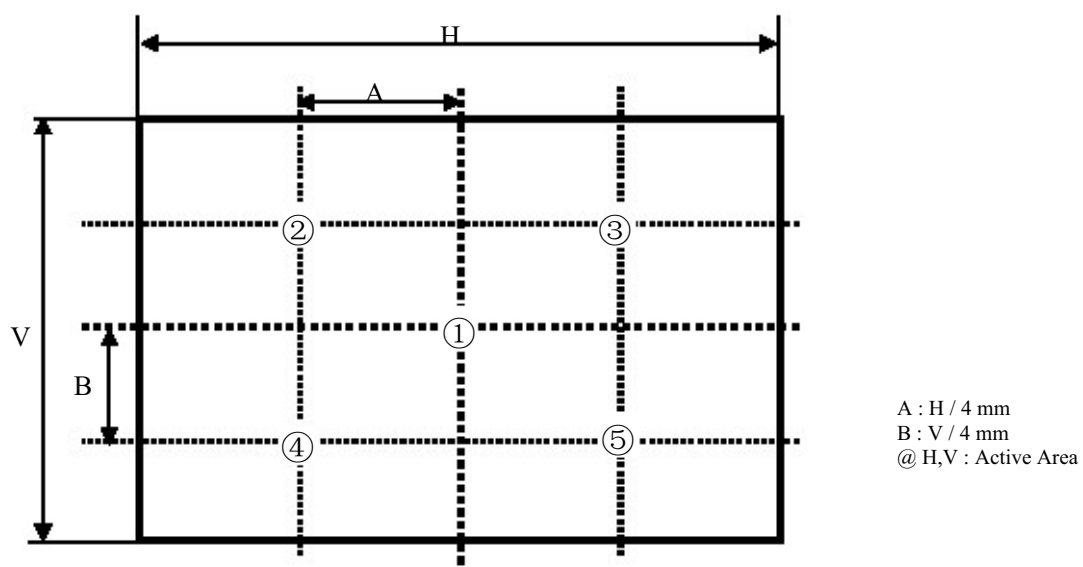

FIG. 2 5 Points for Luminance Measure
n = the Position number(1, 2, 3, 4, 5). For more information, see FIG 2.
2. Surface luminance are determined after the unit has been 'ON' and 60min after lighting the backlight in a dark environment at 25±2°C. Surface luminance is the luminance value at center 1-point across the LCD surface 50cm from the surface with all pixels displaying white. For more information see the FIG. 2.
For more information, see the FIG. 2.